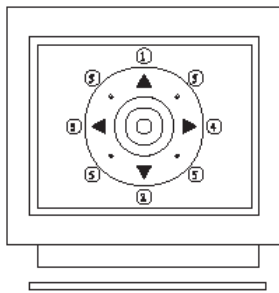

Figure 1
- DIAGONAL : Push the joystick diagonally, the camera move to that direction (direction 5 on figure 1)